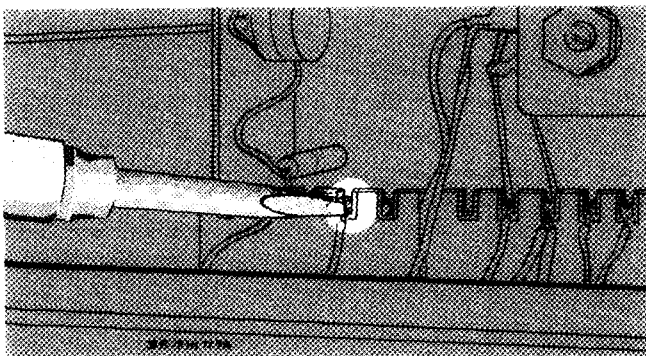

Fig. 4-2. Correct method of applying heat in soldering to a ceramic strip.
4. Apply one side of the tip to the notch where you wish to solder (see Fig. 4-2).